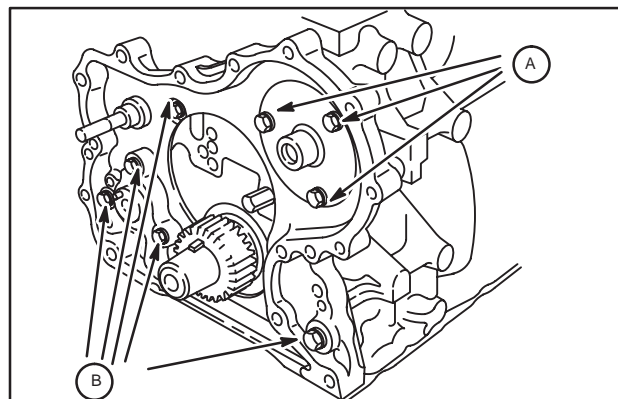

Fig. 9 – Removing Timing Gear Case
1. Remove parts in sequence shown, Fig. 9.